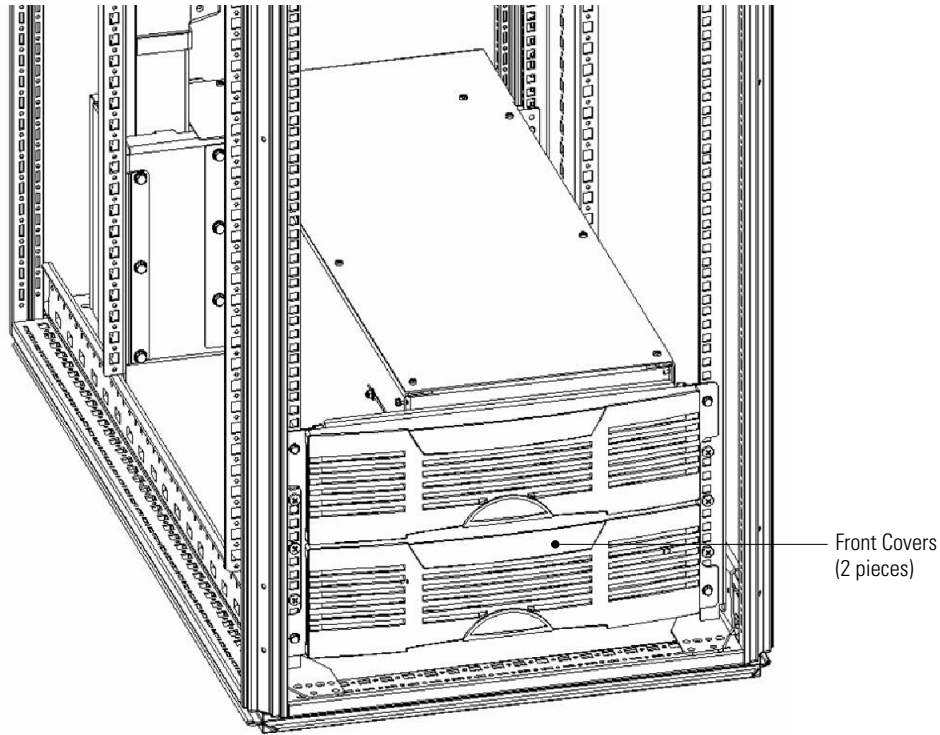

Figure 12. Front Cover Installation
22. Snap the two front covers into place, as shown in Figure 12.